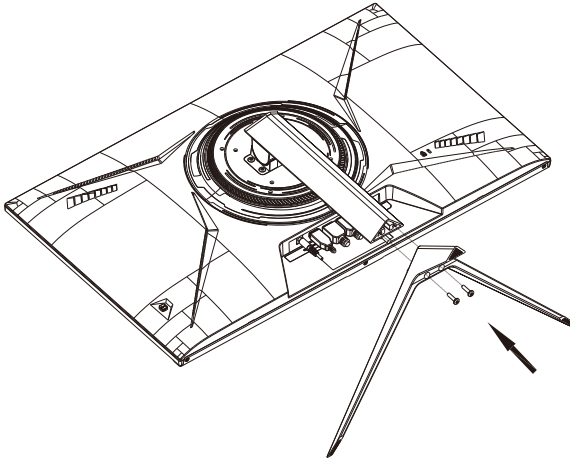

Figure 1
1.Assemble the base to the stand with 2 sets of M4×16mm screws as pictured.(Figure 1)